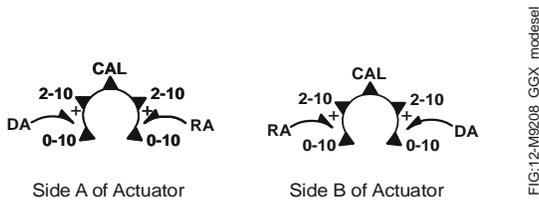

Figure 12: Mode Selection
Actuators have an external mode selection switch to calibrate, select input signal range, and reverse control logic. The switch is accessible from both A and B sides of the actuator as illustrated in Figure 12. Actuators are delivered in Direct Acting (DA), DC 0 to 10 V input signal mode. To change to Reverse Acting (RA) mode, move the mode selection switch from DA to RA. The input signal range is selectable between DC 0 to 10 V or DC 2 to 10 V. If the CAL function is not used, both input signal ranges are proportioned across the full rotation range of 0 to 95° rotation.